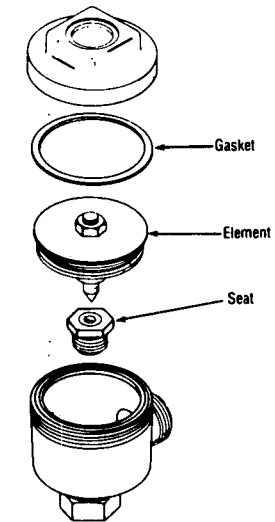

Figure 6-5. STEAM TRAPS.
1. Unscrew and remove cap and diaphragm assembly. Use a hex socket wrench to unscrew and remove seat. See Figure 6-5.